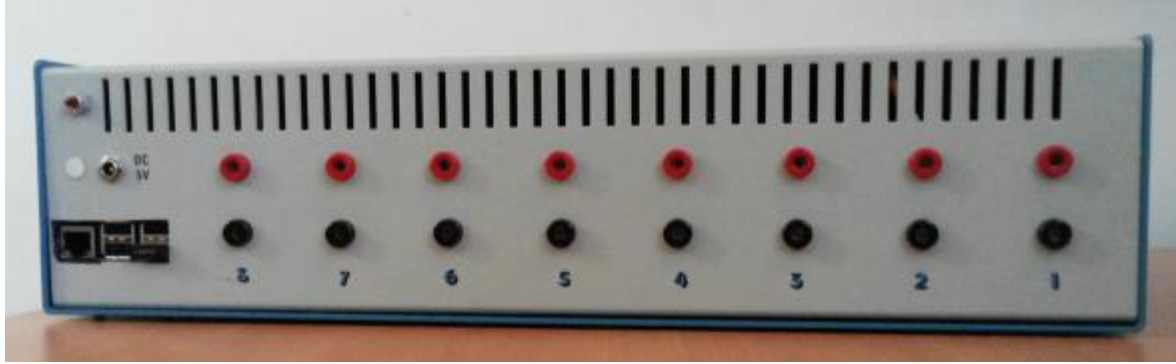

Figure 26 Back panel layout.
Step 1: Connect the first power source to source 1, observing polarity. Each source is numbered (1 to 8) on the front panel as shown in figure 26. The RED banana socket is for the positive terminal and the BLACK banana socket is for the negative terminal of the power source. If the voltage of the power source is more than 7.5V DC, the green LED for that source will be turned on. Figure 26 shows the front panel connections, circuit breaker and LED indicator for each source.